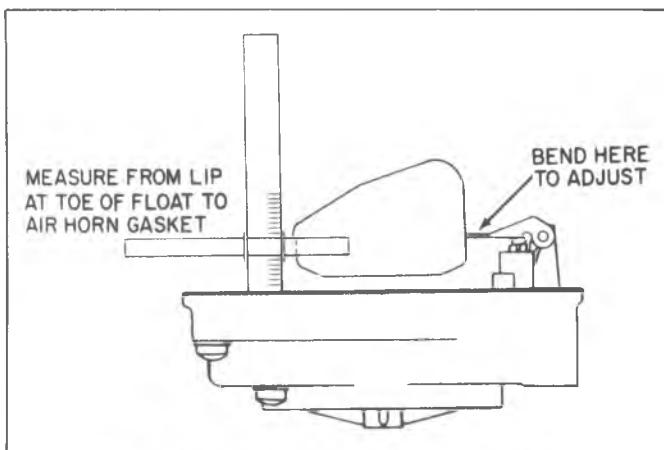

Fig. G9--Float Level Adjustment (Nitrophyl)
- With air horn inverted, gasket in place and needle seated, measure distance from lip at toe of float to air horn gasket. Adjust float to specifications by bending float arm at point shown. (Figure G9).